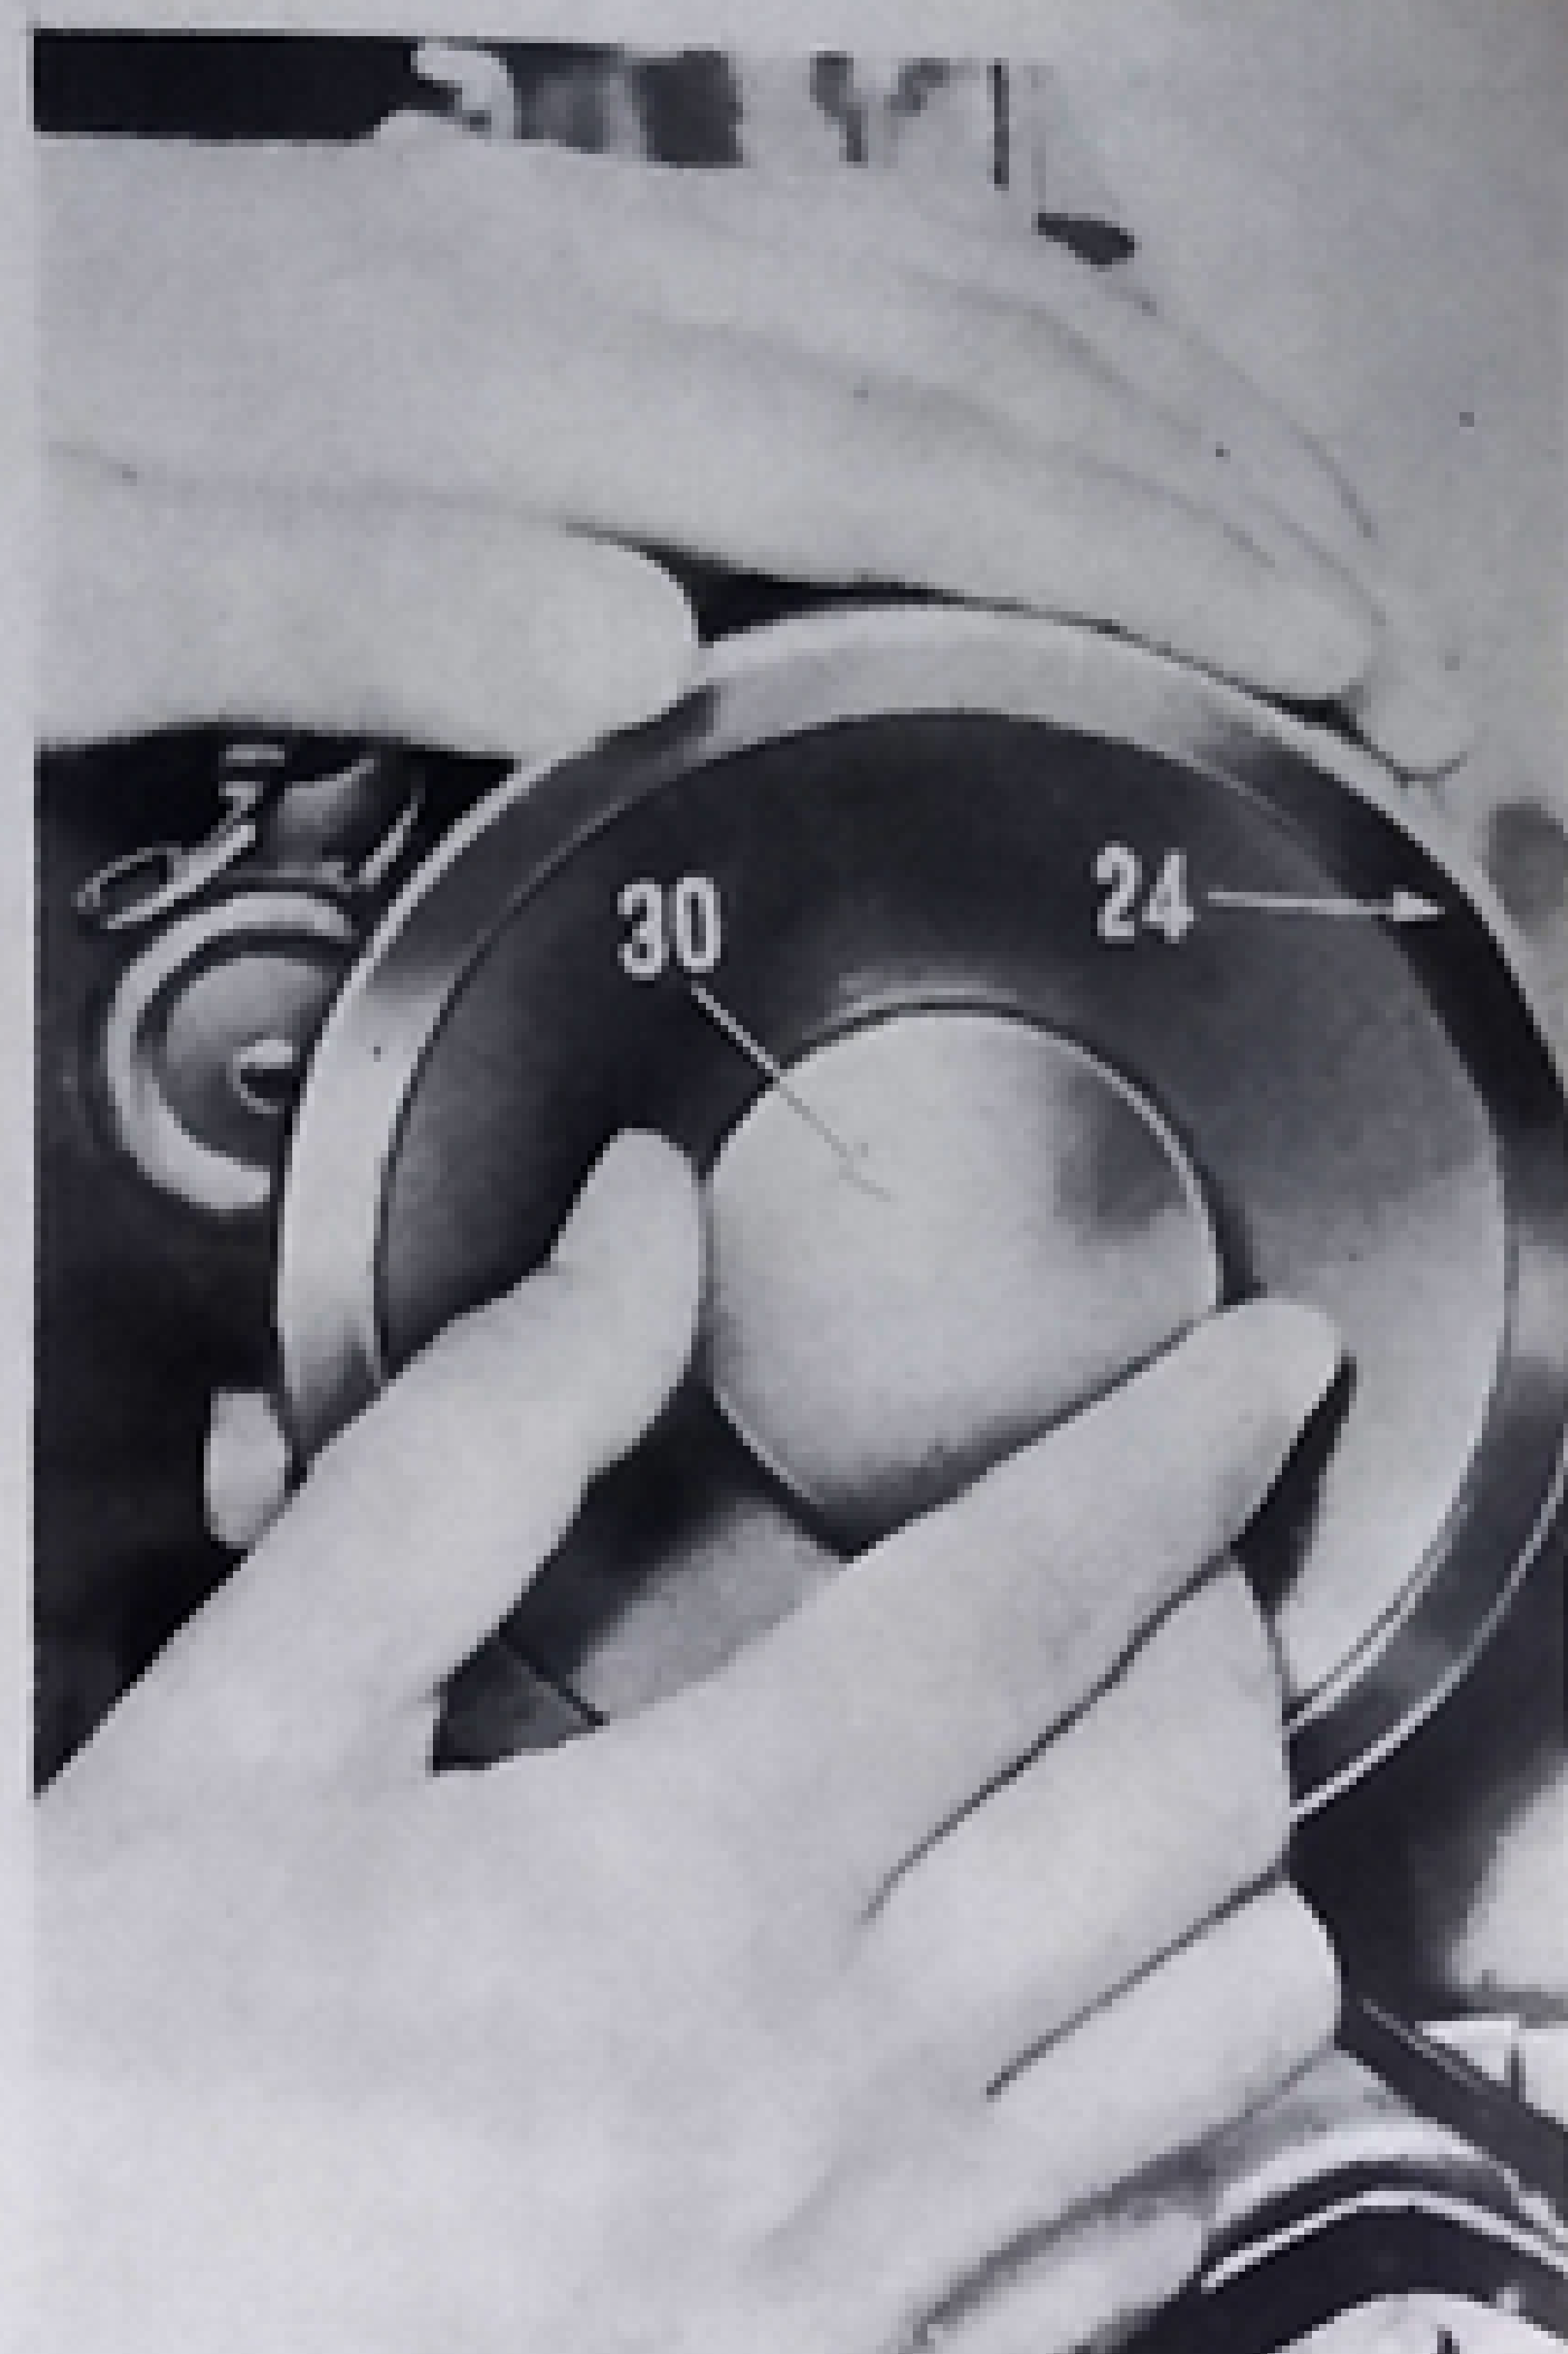
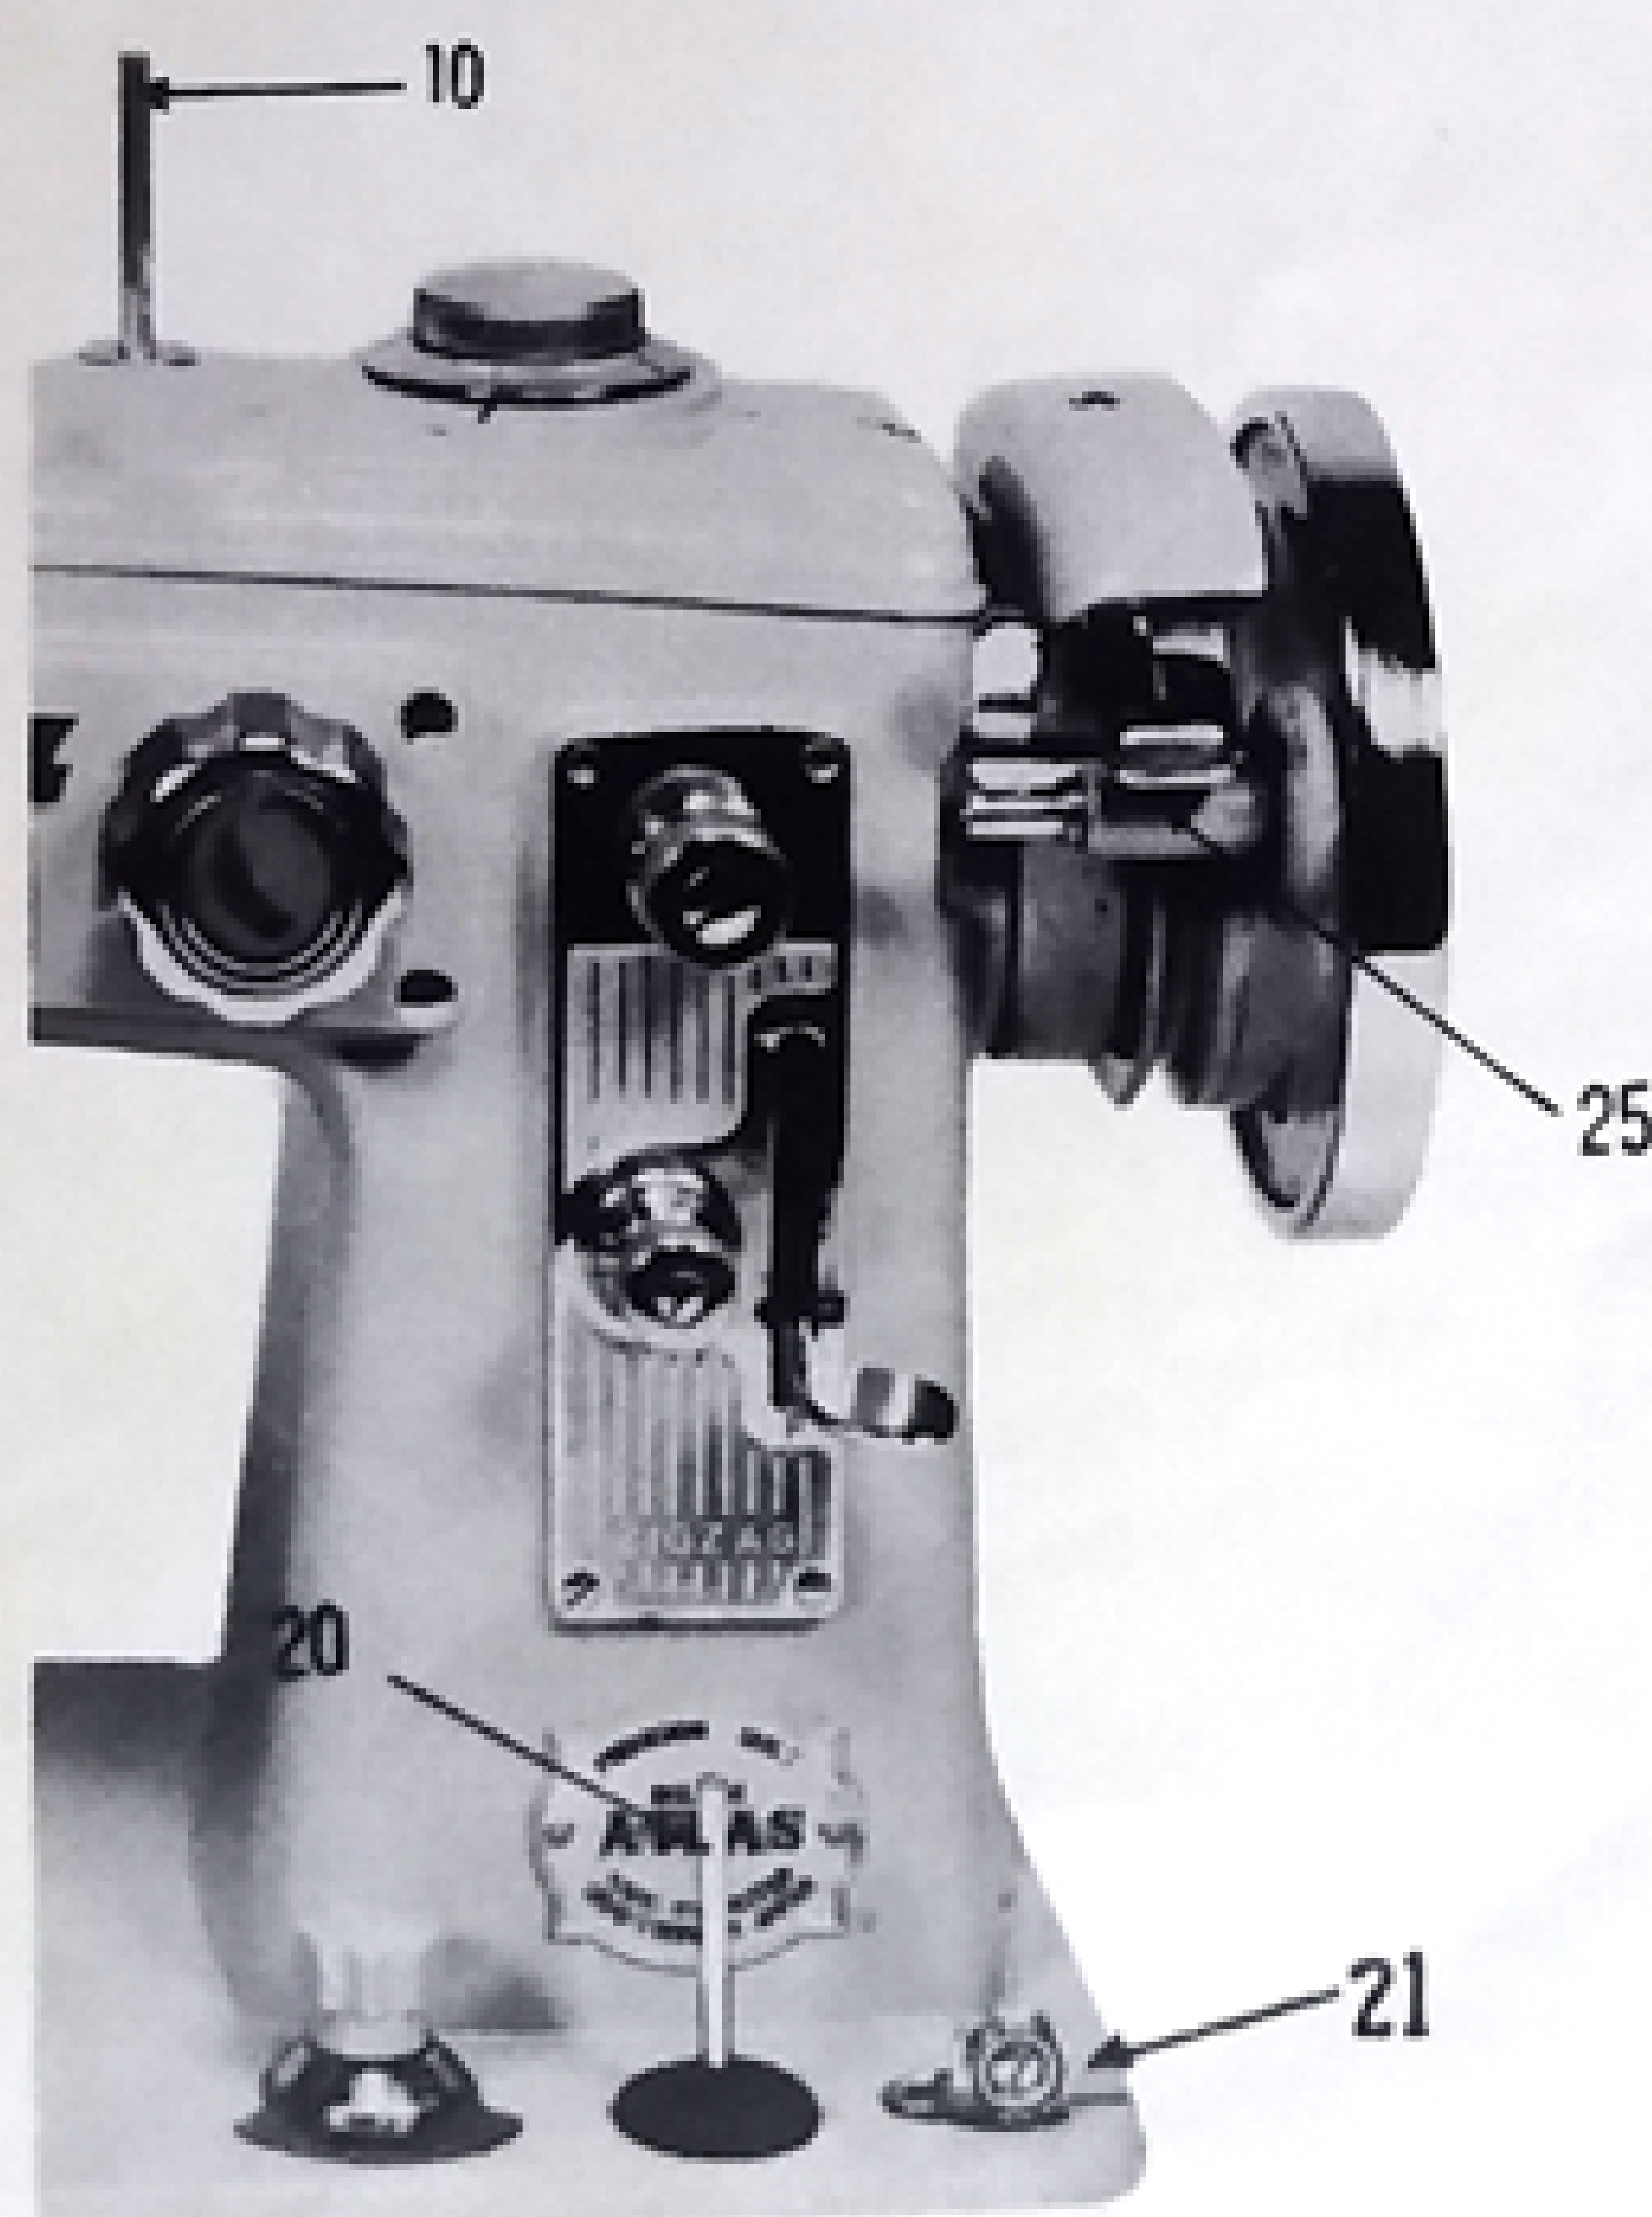

Fig. 3
Fig. 4
Hold the balance wheel (24) with your left hand and with your right hand, turn the stop-motion knob (30) toward you as in Fig. 3. This action disengages the balance wheel from the shaft that operates the machine. Now place a spool of thread on the spool pin (20) as in Fig. 4. Take the end of the thread from the spool and pass it through the bobbin winder tension discs (21) from beneath. The tension discs are located at the right hand corner of the machine.